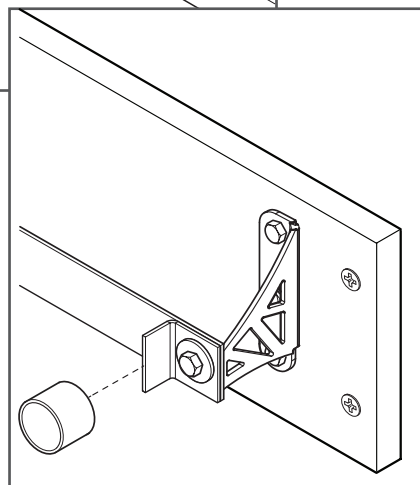

Figure 10A
14. Stretch rubber bumper (provided) over hard stop. Repeat for the hard stop on the other end of the track (Figure 10A).